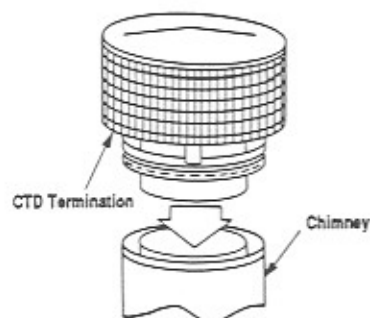

Figure 32
- 1) Hold CTD over top of last chimney section (Figure 32).